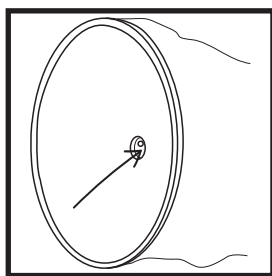

Fig. 5
1. The lighting switch is located inside the hole at the bottom of the base (Fig. 5).